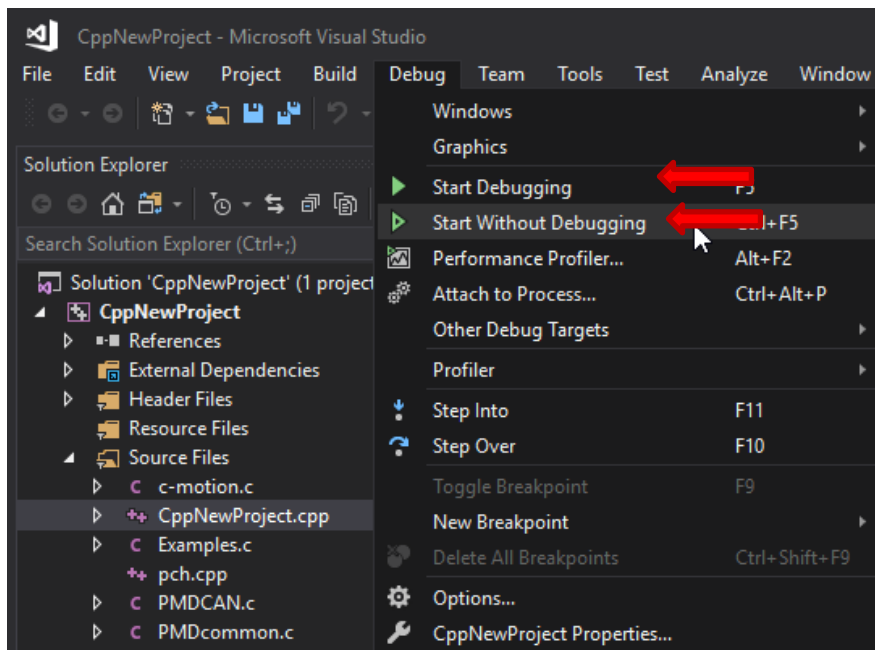

Figure 37 - VS2019 Run Debugging
- 10) Running the program can be done by selecting the debug menu, and selecting either “Start Debugging” or “Start Without Debugging”, see Figure 37 - VS2019 Run Debugging